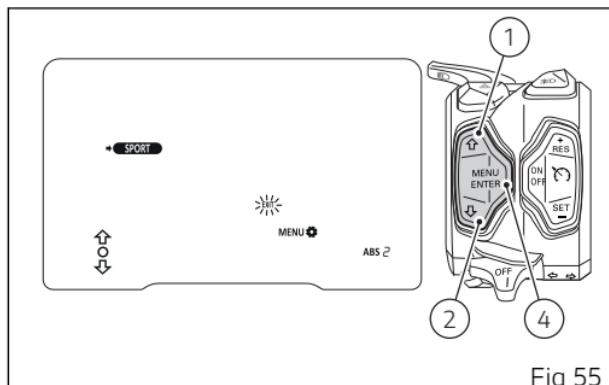

Fig 55
The instrument panel displays the new set level and "EXIT" flashing (Fig 55). Now press button (4) to go back to previous display mode.